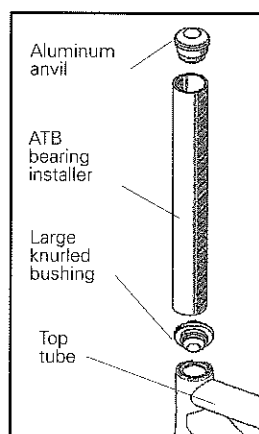

Fig. 53
7. Insert the **large knurled bushing** into the upper bearing (Fig. 53).